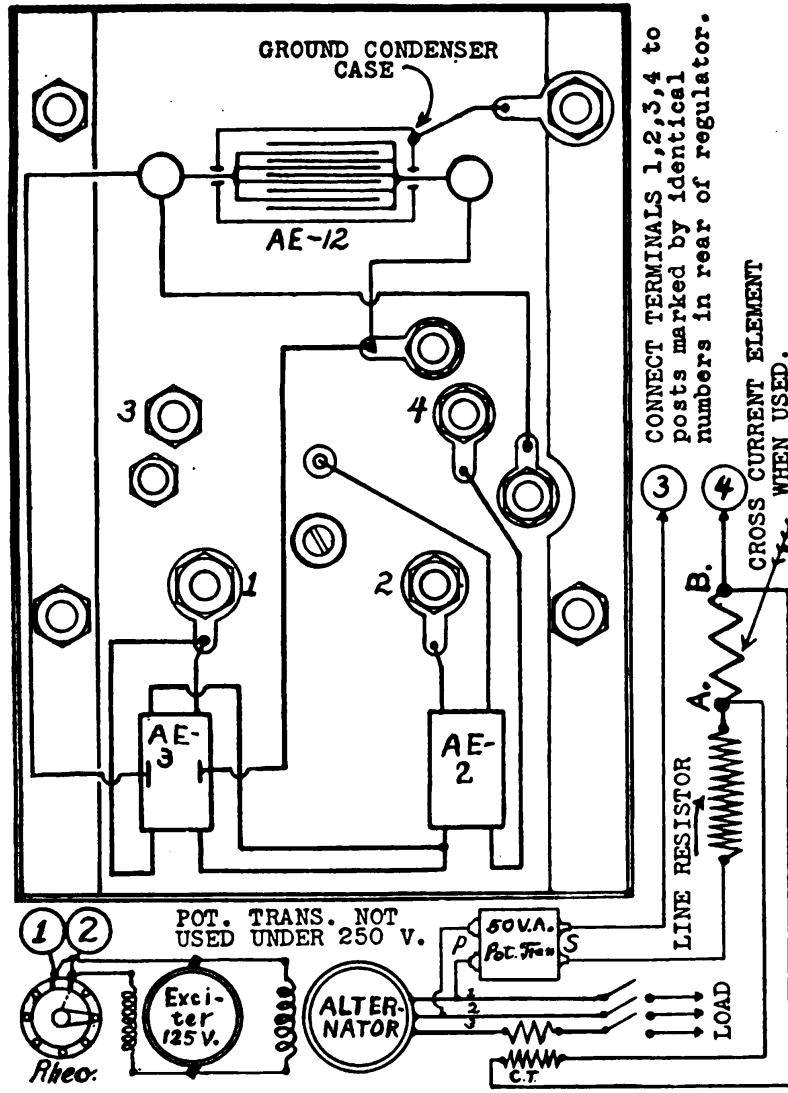

Figure 20. Cross-current connections.
- (5) Adjust the governors on both engines if necessary.
- (6) Throw the synchronization switch to the OFF position.
**d. Cross-current Connections (fig. 20).**
- (1) Short-circuit the terminals of the current transformer and note the increase or decrease of cross currents.
- (2) If the cross current increases with the short-circuited current transformer, the terminals A and B should be reversed.
- (3) If the short circuiting of the current transformer decrease the cross current, the connections at A and B are correct.